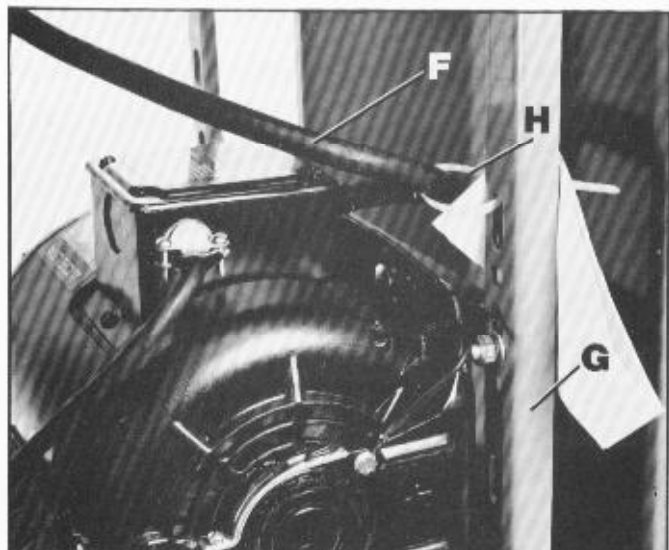
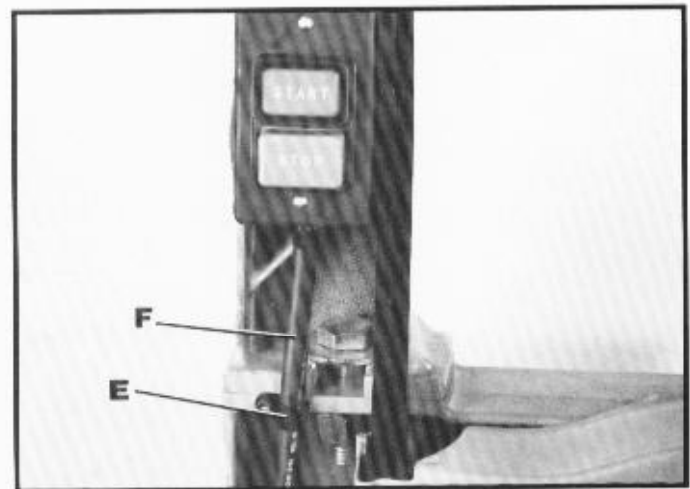

Fig. 7
Fig. 10
2. **CAUTION: THE ON/OFF SWITCH-TO-MOTOR CORD (F) FIG. 7, IS TIED TO VERTICAL MOUNTING POST (G) OPPOSITE THE MOTOR PULLEY. THIS CABLE TIE (H) PREVENTS THE SWITCH-TO-MOTOR CORD (F), FROM CONTACTING THE BELT OR MOTOR PULLEY DURING OPERATION. DO NOT TIGHTEN CABLE TIE (H) AT THIS TIME. IMPORTANT: DO NOT REMOVE THIS CABLE TIE UNLESS YOU ARE USING THE ACCESSORY #28-984 HEIGHT ATTACHMENT WITH THE BAND SAW.**
7. Insert switch cord (F) Fig. 10, into clamp (E) which was removed in STEP 6, and fasten switch cord (F) to band saw as shown. **IMPORTANT: CHECK AND MAKE CERTAIN THE ON/OFF SWITCH-TO-MOTOR CORD (F) FIG. 7, IS NOT CONTACTING MOTOR PULLEY OR BELT. ADJUST CORD (F) FIG. 7, IF NECESSARY, THEN TIGHTEN CABLE TIE (H).**